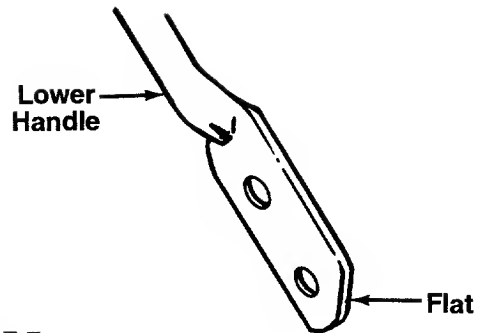

FIGURE 7.
4. Turn the lower handle around so the flat on the bottom is facing upward as shown in figure 7. Reassemble, placing the bottom holes in the handle over the weld pins in the handle mounting bracket.